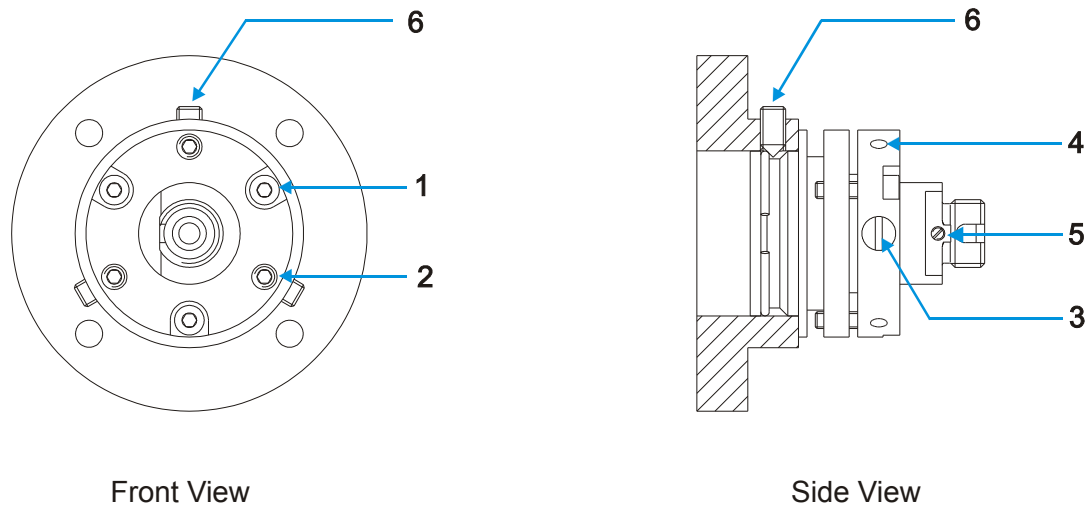

Figure 1: Fibre Coupler
4. Very slightly loosen the three counter screws (# 2 in Figure 1).
5. Carefully adjust the coupler by slightly turning the adjustment screws (# 1 in Figure 1). Usually only 2 of the 3 screws need to be changed. Start with the first screw and make very small adjustments (1/20 turn or less) while monitoring the output power. Find the maximum for that screw and do the same for the next screw. Step by step increase the output power to the maximum. It may take several iterations of the above steps to achieve the maximum coupling.
6. If you have reached the maximum with the tilt alignment you may also try to optimize the focussing. First loosen the locking screws (#4 in Figure 1) then try to find the z-Position with the highest output power using an excenter key.
8. For Polarization Maintaining Fibres you have to adjust the polarization axis. Loosen the locking screws (#6 in Figure 1) and turn the Fibre Coupler into the polarization axis